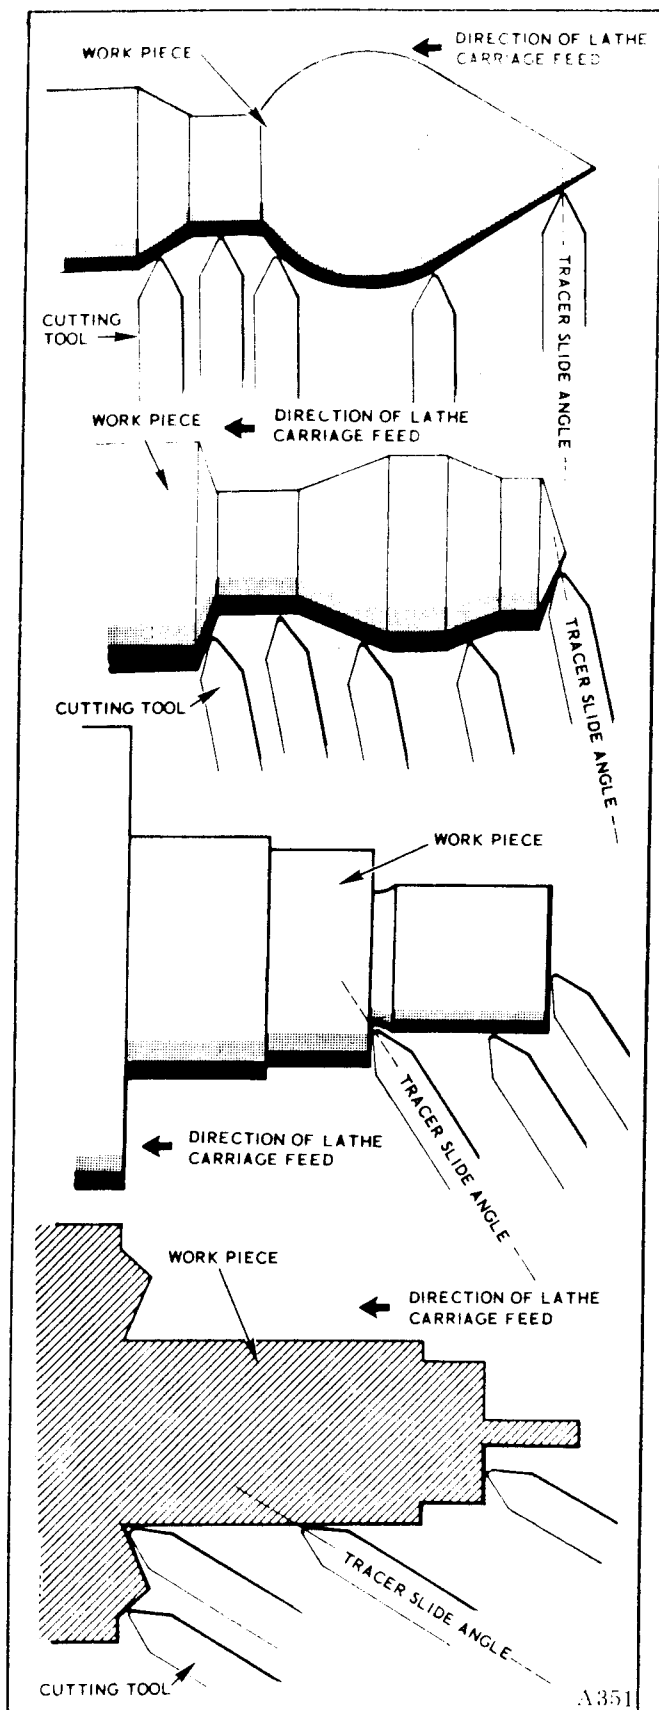

Figure 3-9. Relation of Tracer Slide Angle to Various Types of Contours (Cutting tool is shown at critical points along each contour)
c. Figure 3-9 shows a variety of contour configurations and the cutting tool angle at critical positions along each contour.